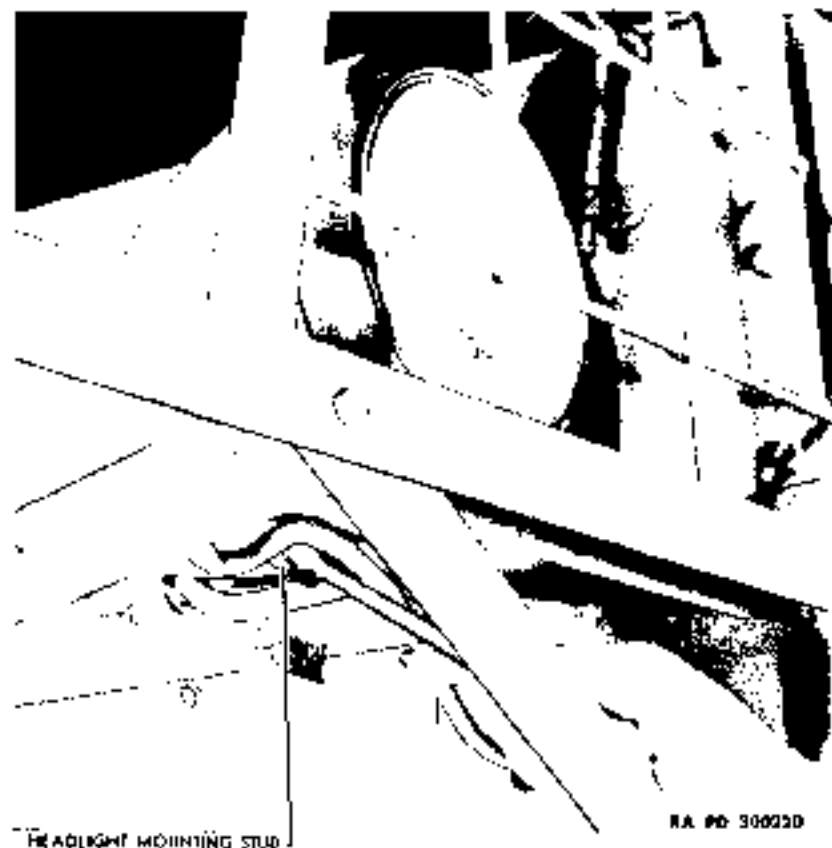

Figure 134—Loosening Headlight Mounting
a. **Description.** The headlights (fig. 134) are the sealed-beam type; that is, the reflector, lamp, and lens are a complete unit, and can only be replaced as a unit. The lower beam filament is positioned slightly to one side of the focal point in the reflector. This results in deflecting the lower or "traffic" beam to the right side, to illuminate the side of the road when meeting other vehicles.
(1) Place the truck on level floor, street, or ground with tires inflated to recommended specifications.
(2) Place screen 25 feet from the front of the truck and center the screen on the center line of the truck.
(3) Measure from the floor to the center of the headlight and set the horizontal tape on the screen three inches less than this measurement from the floor.
(4) Turn on the headlights (upper beam). Cover one light and check the location of the beam on the screen. The center of the hot
sput should be centered exactly at the intersection of the vertical and horizontal lines on the screen. If aim is incorrect, loosen the nut on the mounting bolt (fig. 134) and move the headlight body on its ball and socket joint until the beam is properly aimed. Then tighten the nut on the mounting bolt. Aim other headlight.